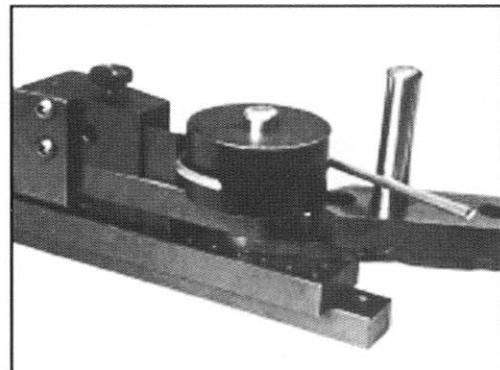

Figure 4
8. If you are working with heavy gauge wire, it may be necessary to use the Sharp Angle Plate (#15) to prevent slipping. If this becomes necessary, it should be put on its side with the angle portion facing up with one side of the hole facing the vise and the other the shaft being used, as shown in Figure 4.